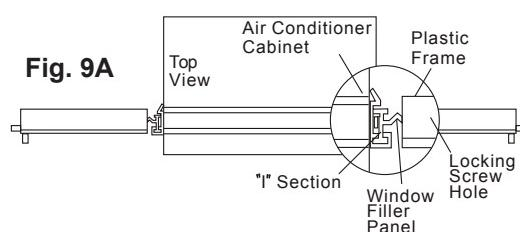

Fig. 9A
3. Insert top and bottom legs of window filler panel frame into channel in the top angle and bottom rail. Do both sides (See Fig. 9A.)
4. Insert washer head locking screws (2) into holes in top leg of filler panel frame. (See Section 6.) Do not totally tighten. Allow leg to slide freely. Screws will be tightened after section 6.